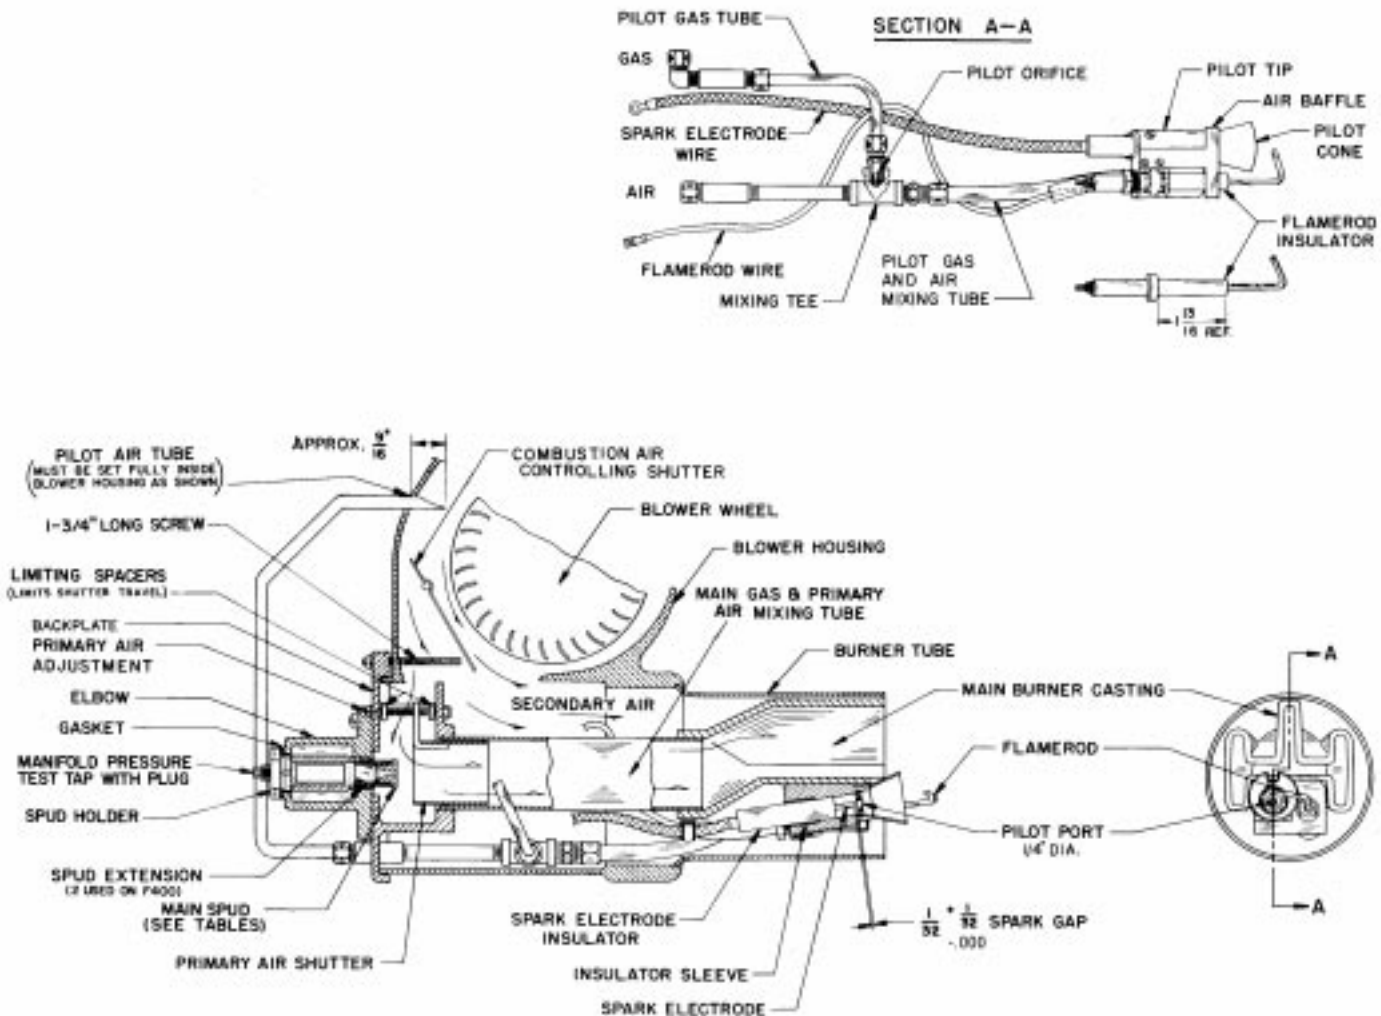

FIGURE 7 General Assembly
□ F400B burners are shipped equipped for natural gas, with the spud removed. Compare the gas input required with the spud capacities shown in the spud table and, if necessary, install the spare spud (see Figure 7).
- The spark rod is located on the center line of the pilot and is positioned so the high tension voltage will arc to the inside of the center port of the retention plate (see Figure 7).
- The flame rod must be positioned as shown in Figure 7 so that the electronic control will detect a proper flame. Note that it is slightly above the centerline of the pilot.
- The pilot air tube must be kept free of kinks or inside obstructions and its inlet end must be positioned per Figure 7, otherwise air flow could be reduced sufficiently and adversely affect the pilot flame.
See Figure 7.